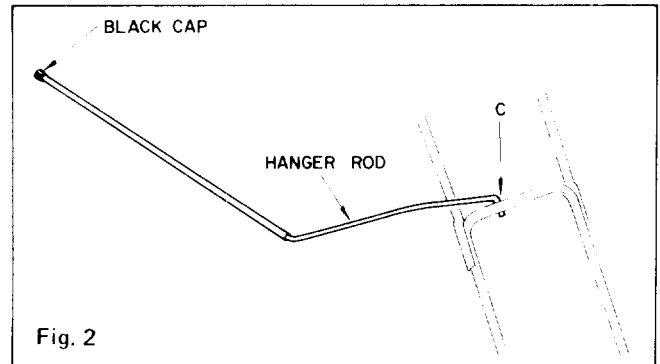

Fig. 2
Insert the assembled hanger rod end into the hole at the center of the lower handle (C), see Fig. 2. Insert black cap (2410-29) over end of tube.